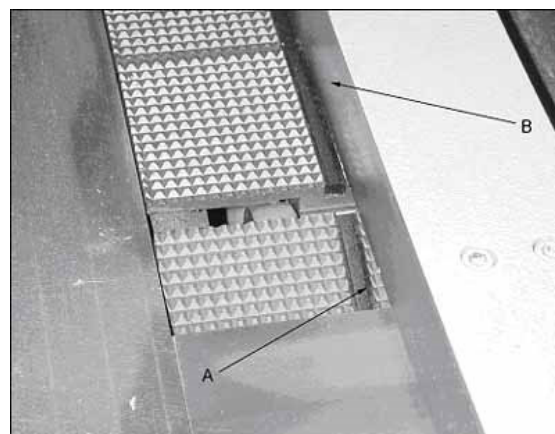

Figure 2
side blade kerf impression on the rubber insert (B, Figure 2).
2. From the factory the blade was run into the rubber inserts of the caterpillar chain. From this the blade kerf impression can be seen in the rubber insert (A, Figure 2). IF there is no blade impression go to 'Setting the Saw Blade Height on page 16.